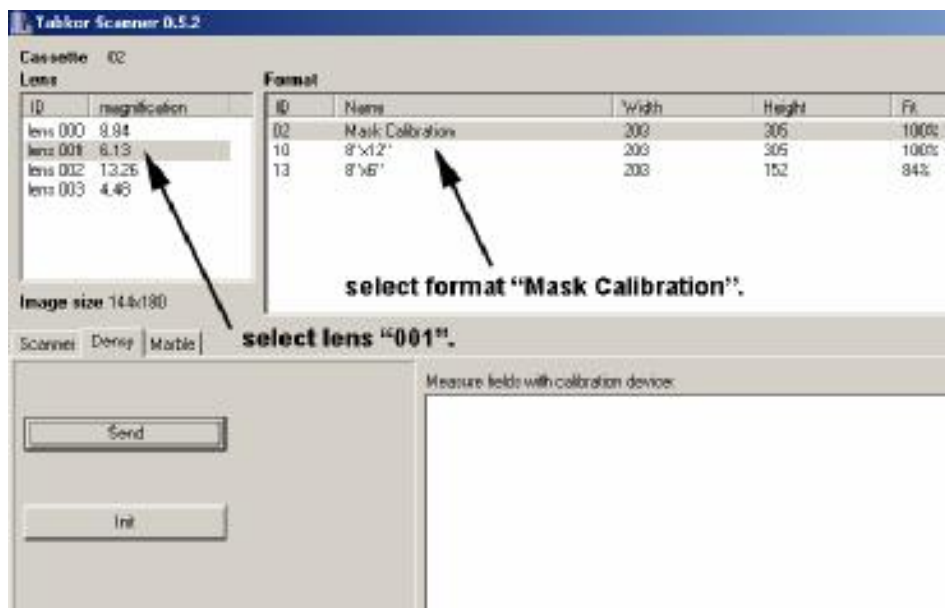

Fig 2.7.7
- On **Densy** tab under **Lens** select **lens 001** (Fig 2.7.7).
- Select **Mask calibration** under **Format** (Fig 2.7.7).